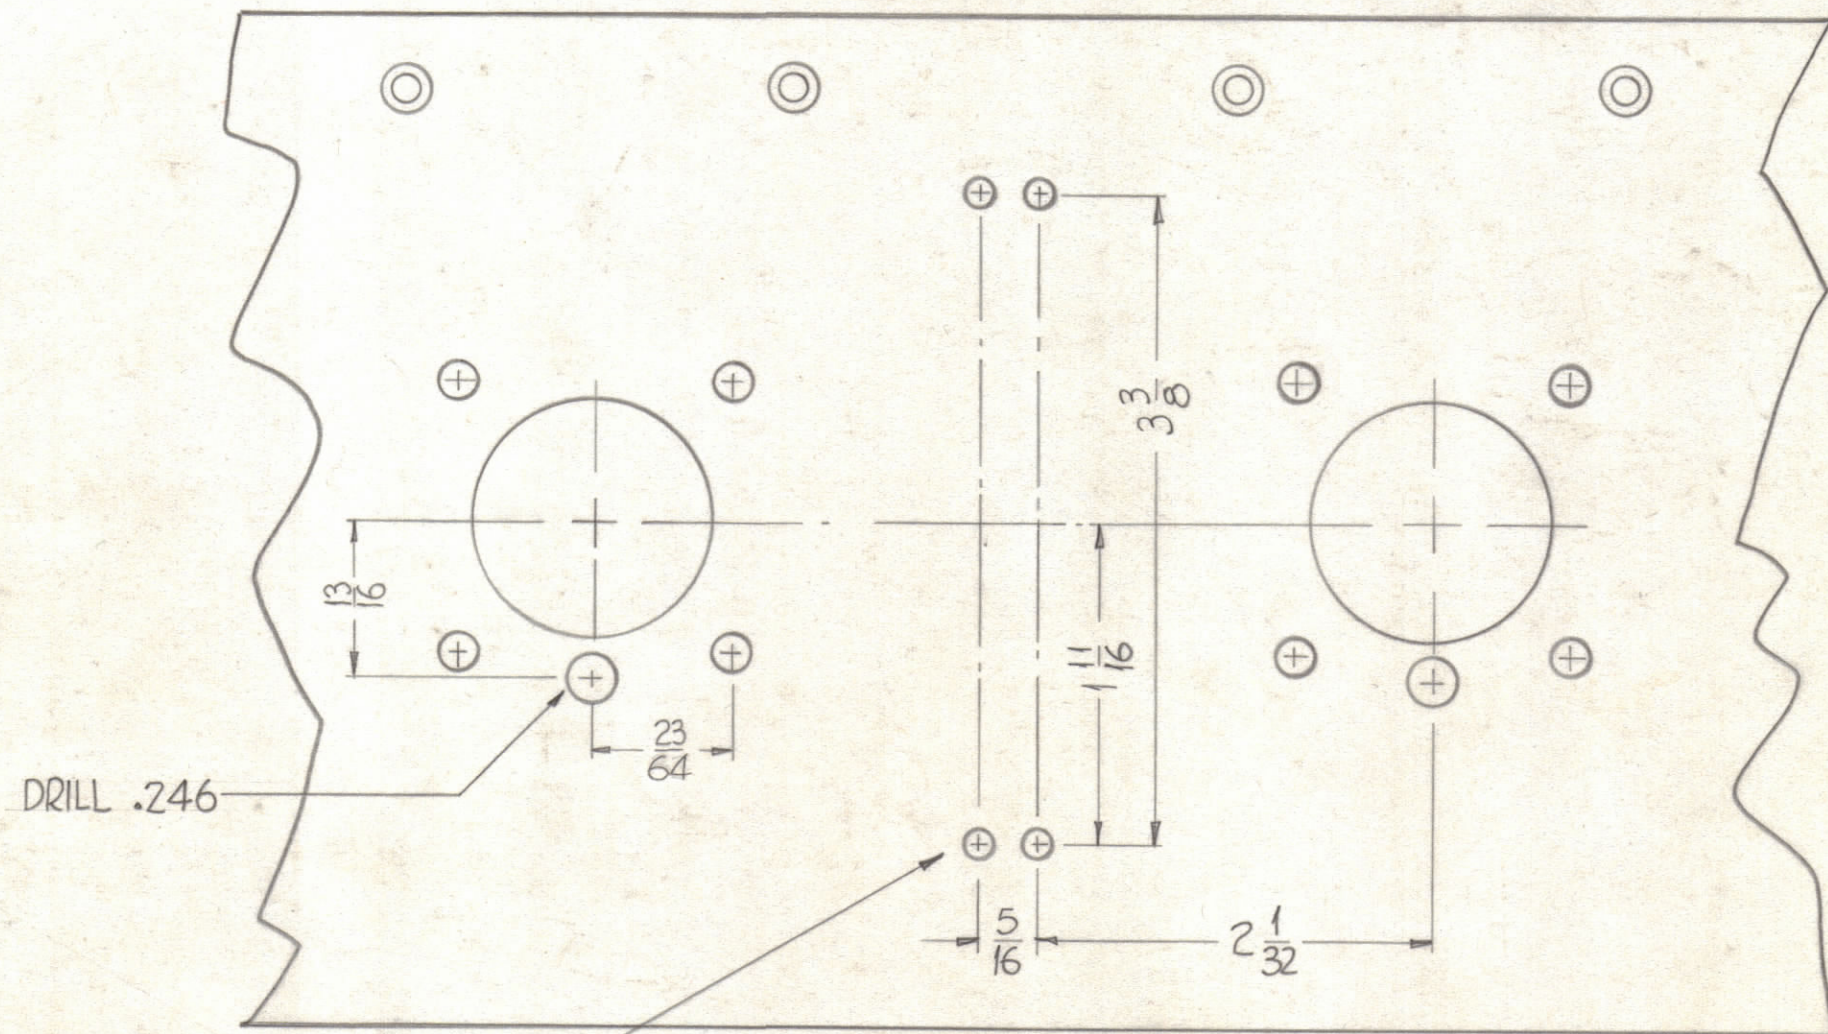

FIGURE 2 (Front of Panel - Typical Hole Layout)
- LAYOUT AND DRILL ADDITIONAL HOLES IN ORIGINAL PANEL (See Figure 2).